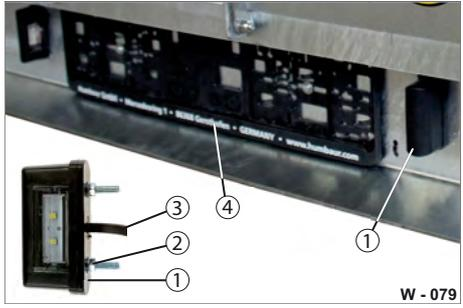

Fig. 77 Licence plate light
- ▶ Loosen the screw connections (Fig. 77/2).
- ▶ Loosen the connection cable with plug connection (Fig. 77/3).
- ▶ Replace the complete LED lamp (Fig. 77/1).